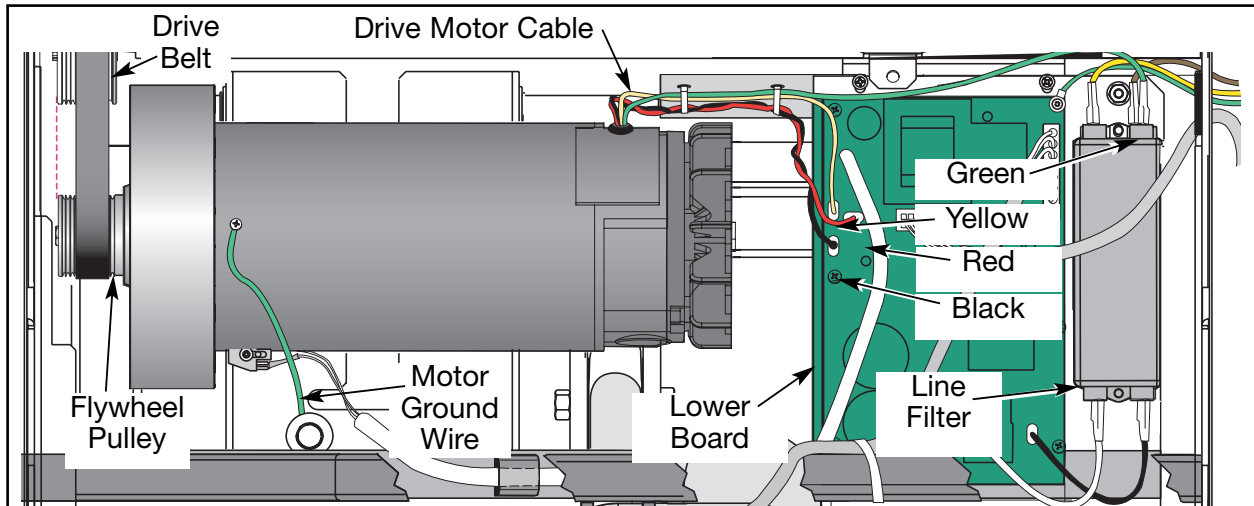

Figure 13
- B. Slip the drive belt around the flywheel pulley and off the motor. See Figure 13.
- A. Using a 1/2" socket wrench, remove the screw, split washer, flat washer and motor ground wire from the motor saddle. See Figure 13.
- C. Disconnect the motor cable from the lower board and line filter. **NOTE: You will disconnect four wires (red, black, yellow and green).** See Figure 13.
- A. Connect the motor cable to the lower board and line filter as shown in Figure 13 (red to A1, black to A2, yellow to BW and green to the line filter). **NOTE:** For internationally installed treadmills only, the green cable goes on the ground stud tab.